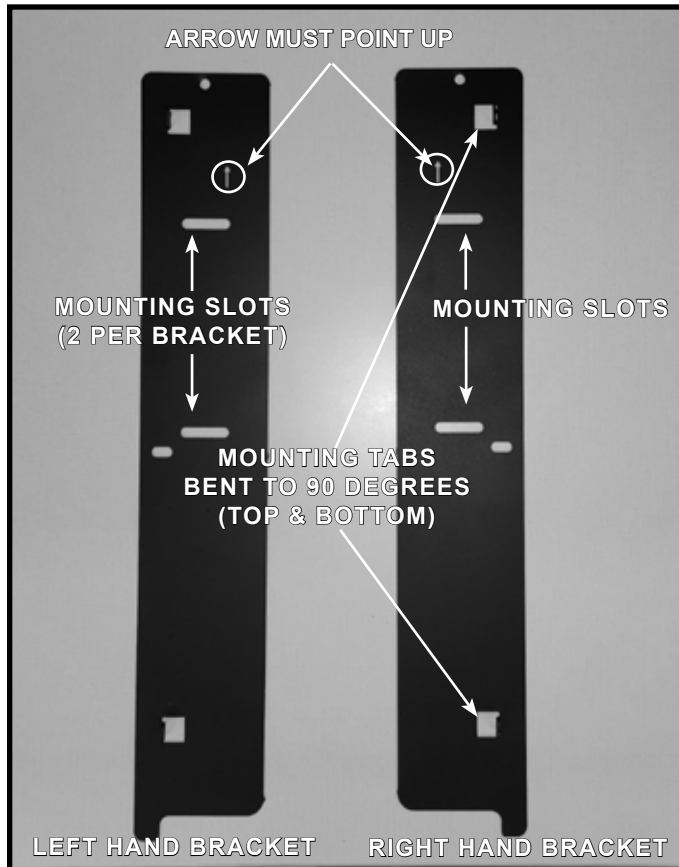

Figure 8. Auxiliary Hanging Brackets
2. Locate the mounting tabs on the two auxiliary hanging brackets. The mounting tabs are shipped unbent. Use a pliers to bend the tabs to 90 degrees as shown in **Figure 8**.